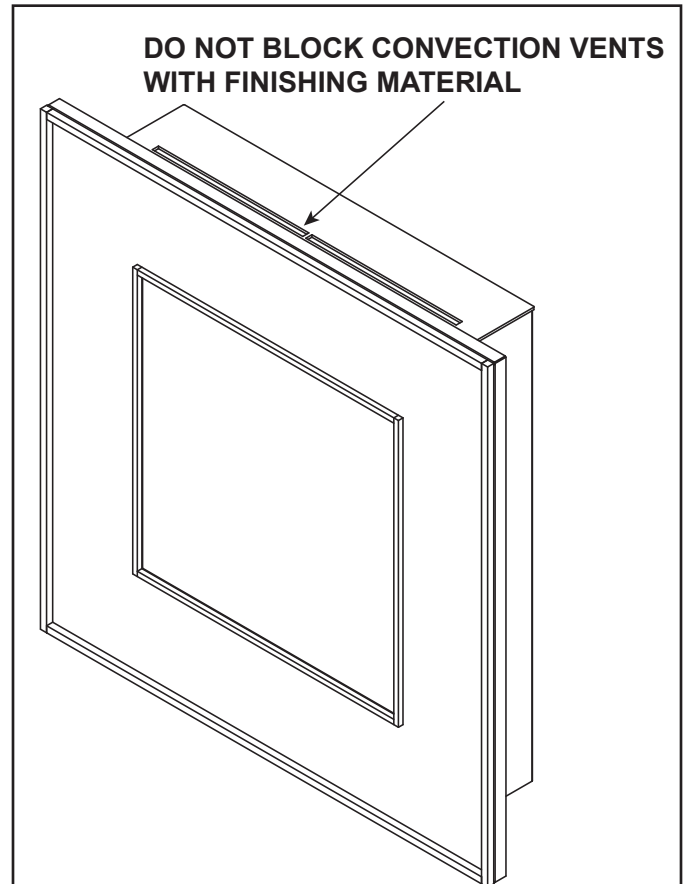
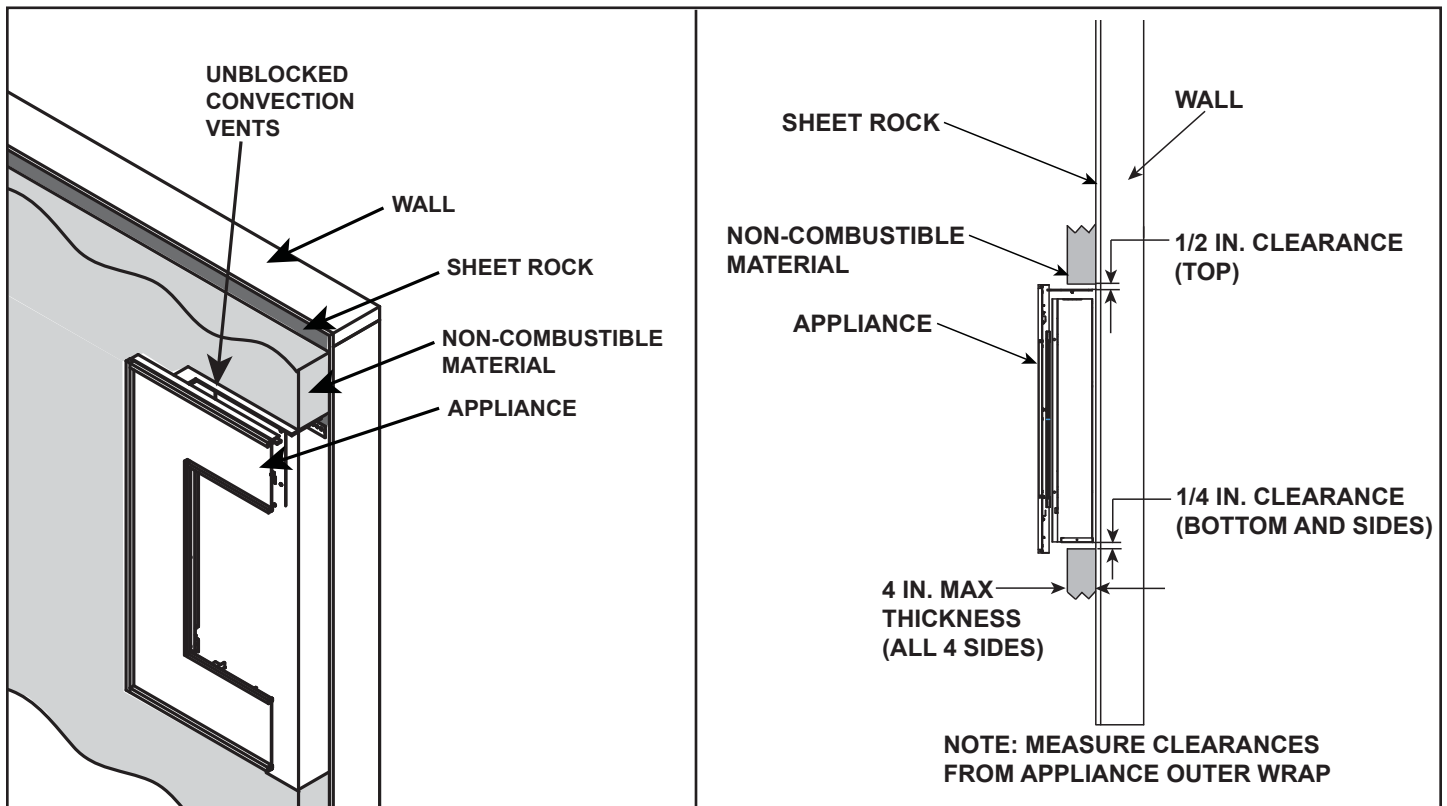

Figure 10.1 Convection Vent Location
Figure 10.2 Non-Combustible Facing Diagram
- Facing and/or finishing materials must not interfere with convection vents, operation of doors, or access for service. See Figure 10.1 and Figure 10.2.